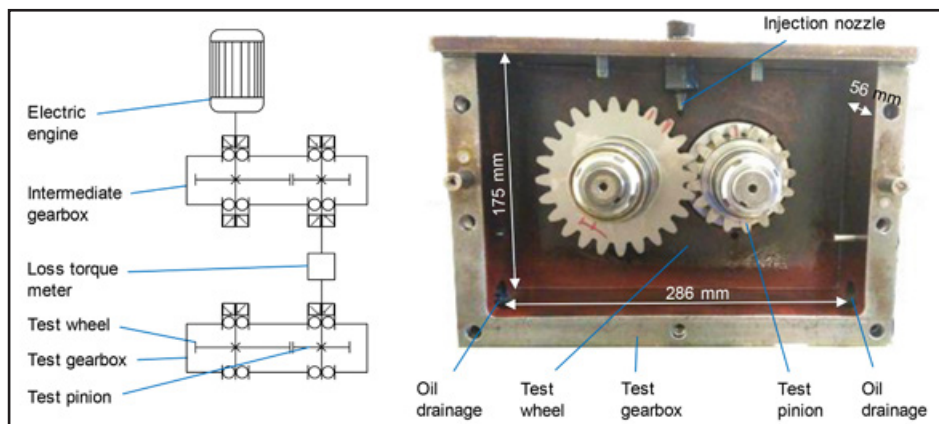

Figure 1 Mechanical layout of the FZG no-load power loss gear test rig (left); injection-lubricated test gearbox (right).
**FZG no-load power loss test rig.** The mechanical layout of the FZG no-load power loss test rig is shown (Fig. 1, left). It consists of four main parts: the electric engine, the intermediate gearbox, the loss torque meter and the test gearbox. The test gearbox is planned to be adapted for injection lubrication similar to the manner shown (Fig. 1, right).
The injection lubrication of the test gearbox is planned to be adopted from other FZG gear test rigs (Figure 1, right). The injection nozzle is placed just above the gear meshing zone. The injection nozzle has an oval shape (12 mm long, 1.5 mm wide) so that the oil can be injected over the width of the gears. A PLC control cabinet controls the oil temperature in the oil supply unit as well as the oil injection volume. The injected oil can flow back to the oil supply unit through the two oil drainage holes (Ø24 mm) at the bottom of the two side walls of the test gearbox.